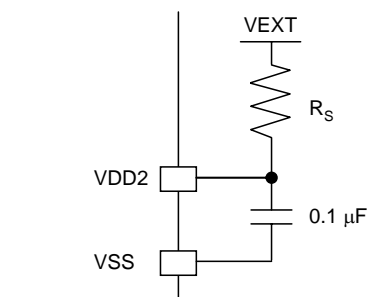

Fig. 1
- When the external supply voltage  $V_{EXT} = 4.5\text{ V}$  to  $5.5\text{ V}$ , connect a 5.1-k $\Omega$  resistor  $R_S$  between  $V_{EXT}$  and VDD2 as shown in Fig. 1.